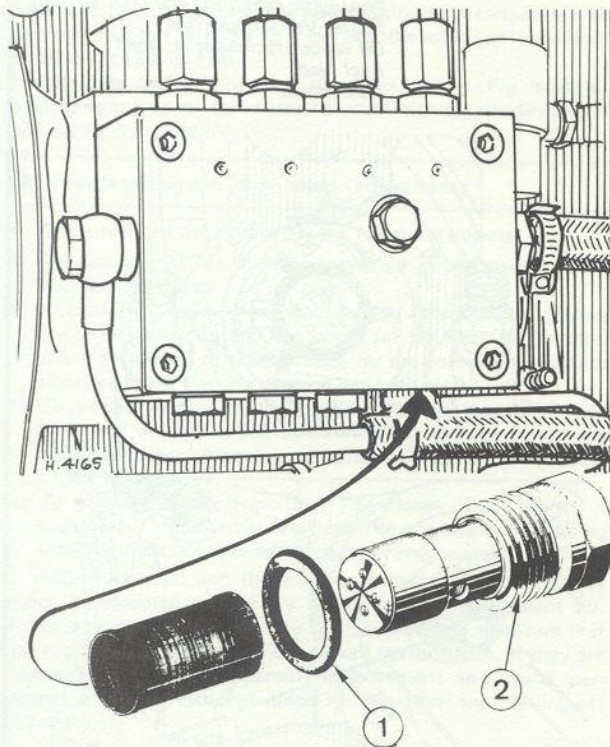

Fig 3.32 Suction valve and its location (Sec 36)
- 2 Unscrew and remove the suction valve. Recover the 'O' ring and filter (Fig. 3.32).